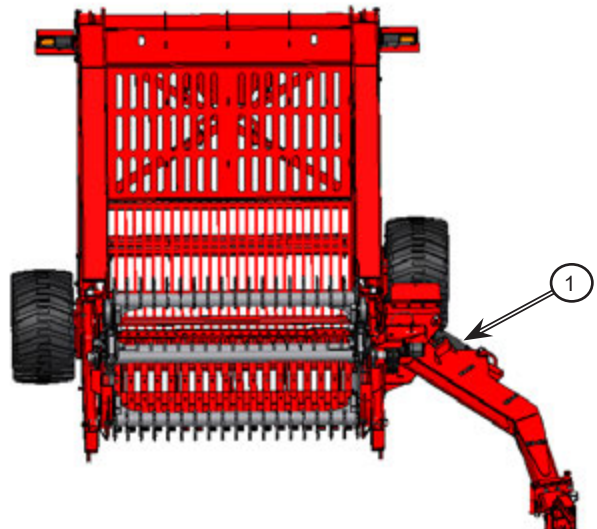

Figure 5.6: Move the hitch into working position
6. Move the hitch into working position; see *Figure 5.6*.
- ii. Fully retract the hitch cylinder (1).